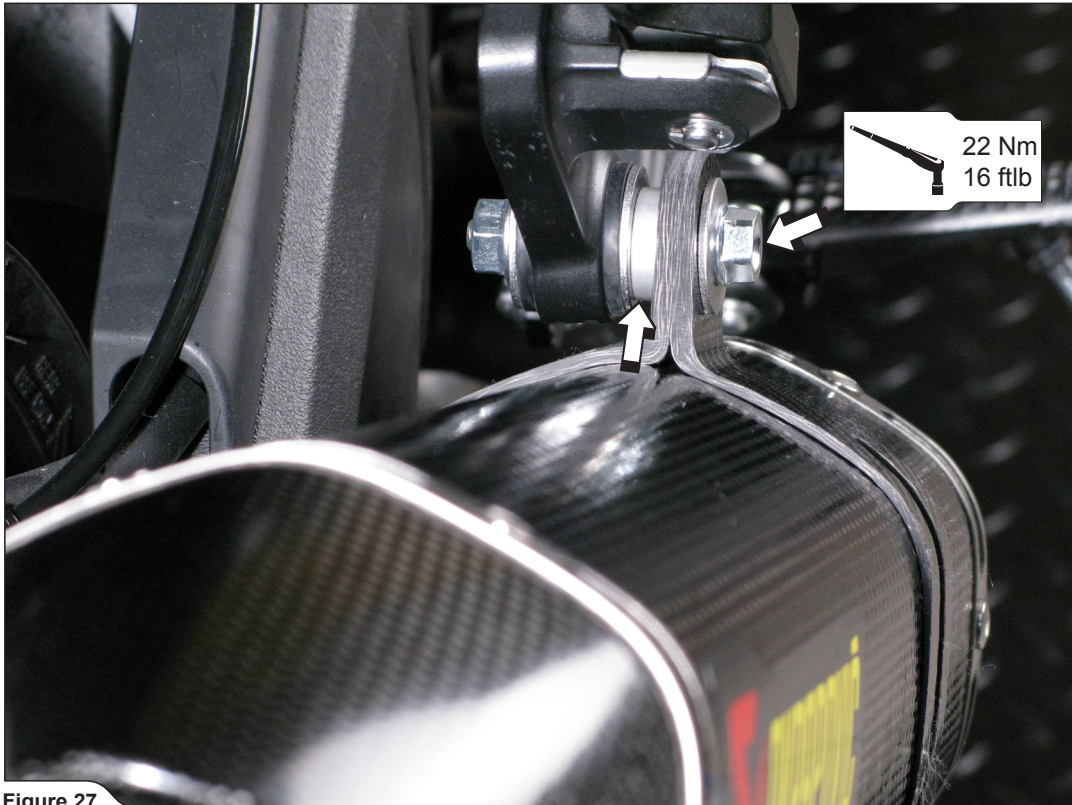

Figure 27
12. Align the muffler in respect to the motorcycle and tighten the muffler clamp to the bracket, using Akrapovič bolt, washer, aluminium distance bush and nut, as shown (Figure 27).
! **WARNING:** make sure, that you assemble the marked Akrapovič alu. distance bush correctly (Figure 27)!